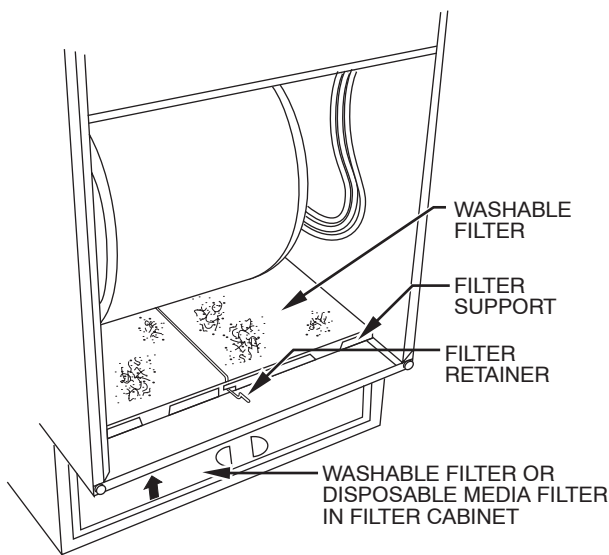

Fig. 3 - Bottom Filter Arrangement
3. Release filter retainer wire. (See Fig. 3 or 4.)
NOTE: Filters shown in Fig. 3 and 4 can be in furnace blower compartment or in filter cabinet, but not in both.